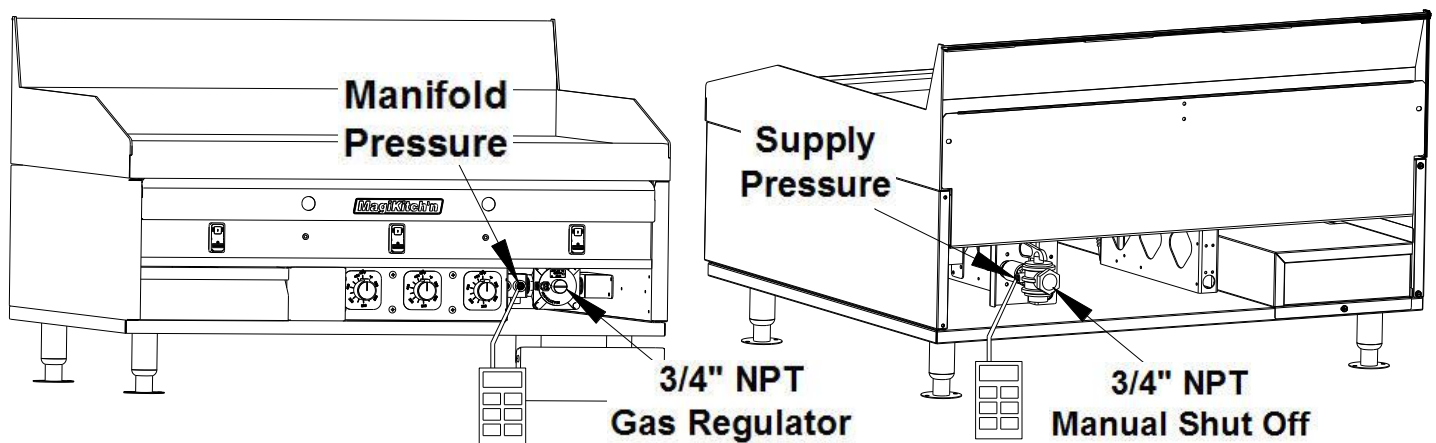
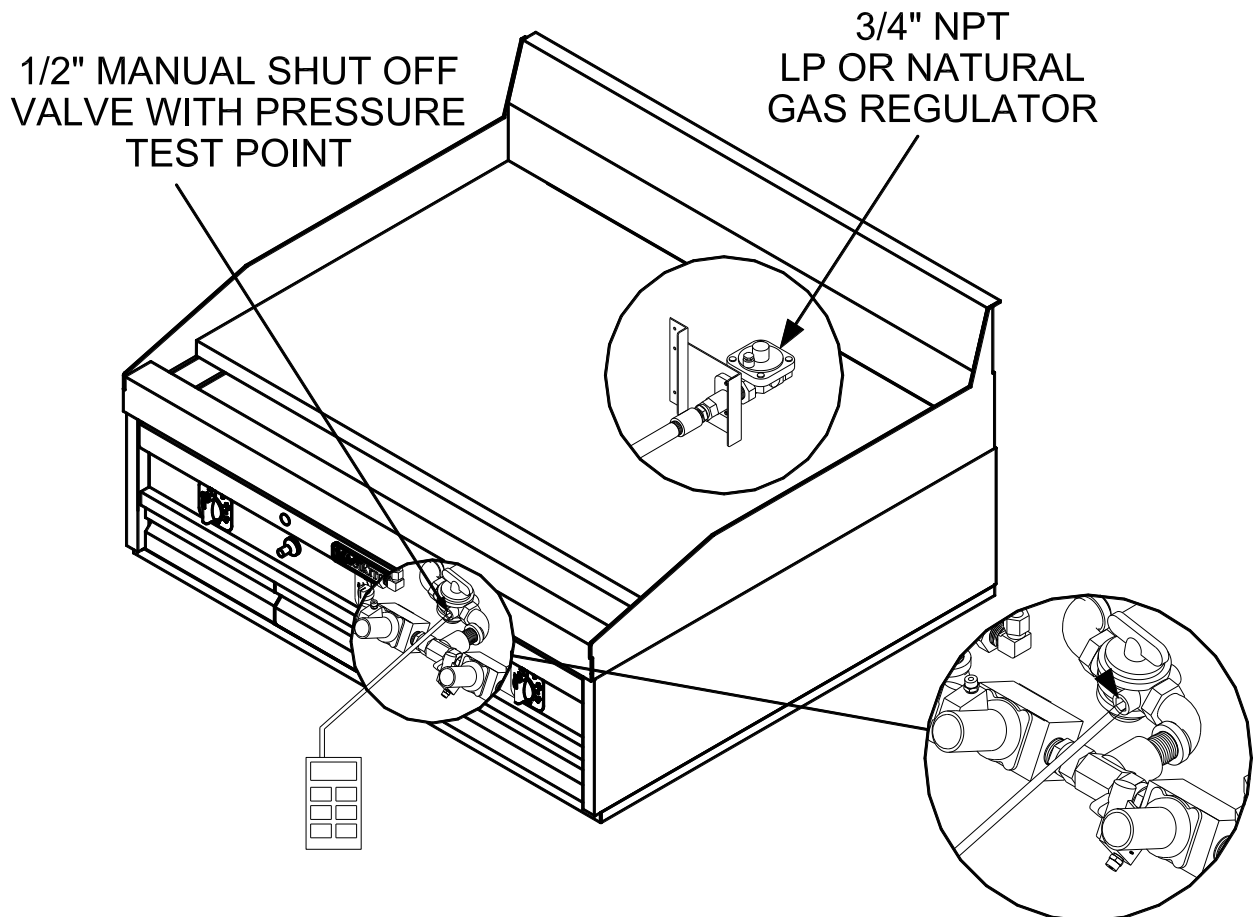

Figure 6, Matchless Ignition Regulator System
Figure 6a, Snap Action Regulator System
1. In most cases the gas input regulator for your new appliance has been installed at the factory, See Figures 6 & 6a depending on the model of your appliance for the location of the regulator and the manual shut off valve. **Note:** For Australian models the regulator is supplied as a separate item. This will allow the installer to choose their method of installation in accordance with AS/NZS 5601. The example in Figure 6a shows one possible method of attachment. Using a regulator other than the one supplied with the unit will void the warranty.
2. The manifold pressure must be maintained at the pressure marked on the Data plate. The manifold pressure reading is taken at the 1/8" NPT coupling located behind the lower front panel next to the gas regulator, see Figure 6 & 6a. To check the supply pressure to the appliance use the pressure test point supplied on the manual shut off valve, also see Figure 6 & 6a.
Orifices are sized to provide proper gas flow to the rated BTU/hr for each model. Regulator pressure must be measured and adjusted before the unit goes into service, following installation and when operational performance is in question. The manifold and supply pressure readings are taken at the pressure test points provided, see Figure 6 & 6a.
2. Open front door of the griddle, turn the manual gas shut off valve to the “ON” position. See Figure 6.
2. Turn the Manual gas shut off valve to the “ON” position, this valve is located at the rear of the unit, see Figure 6a. To open the valve to allow gas flow the handle should be in line with the manual shut off valve.